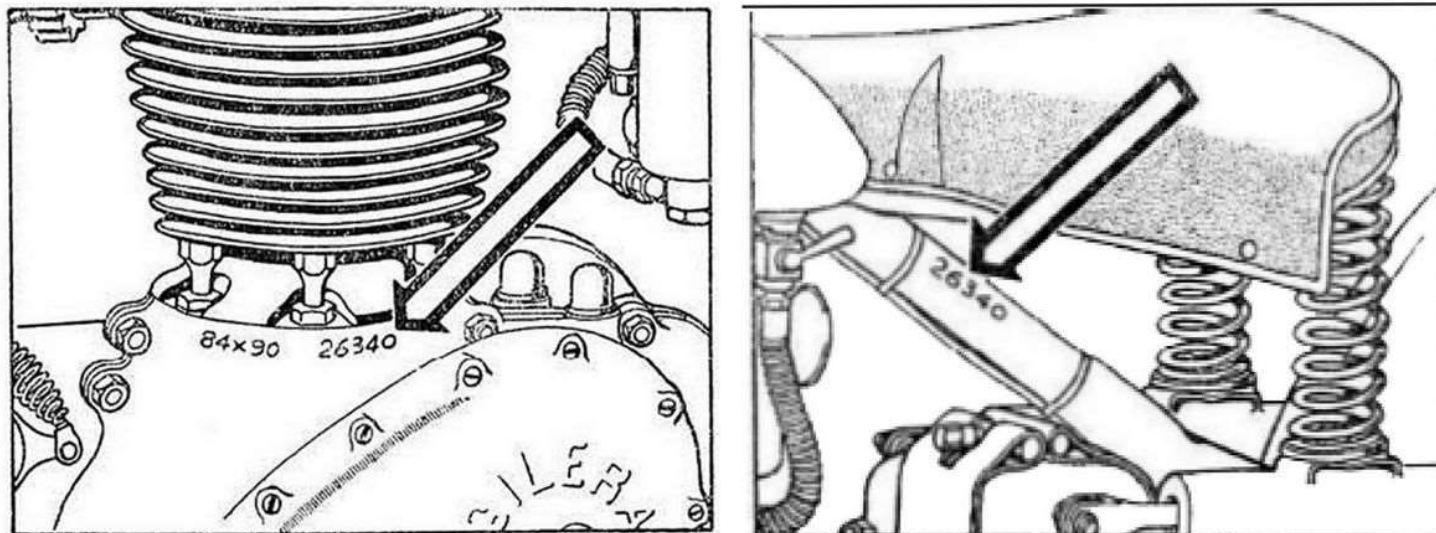

Fig. 1:
- On the upper central tube of the frame, in the left position, under the saddle. (See Fig.1).